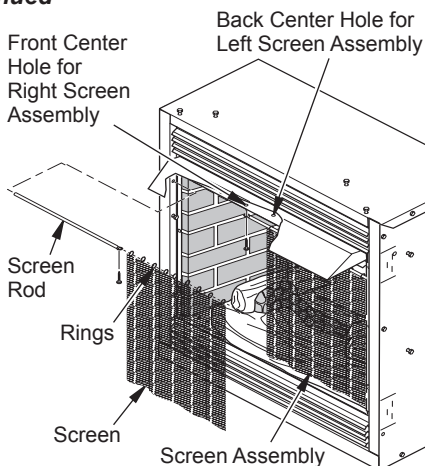

Figure 31 - Installing Screen
5. Insert each rod through ten rings located at top of screen (see Figure 31).
6. Insert first rod into hole in left side of firebox. Fasten rod to rear hole near center of firebox using black Phillips head screw (see Figure 31).